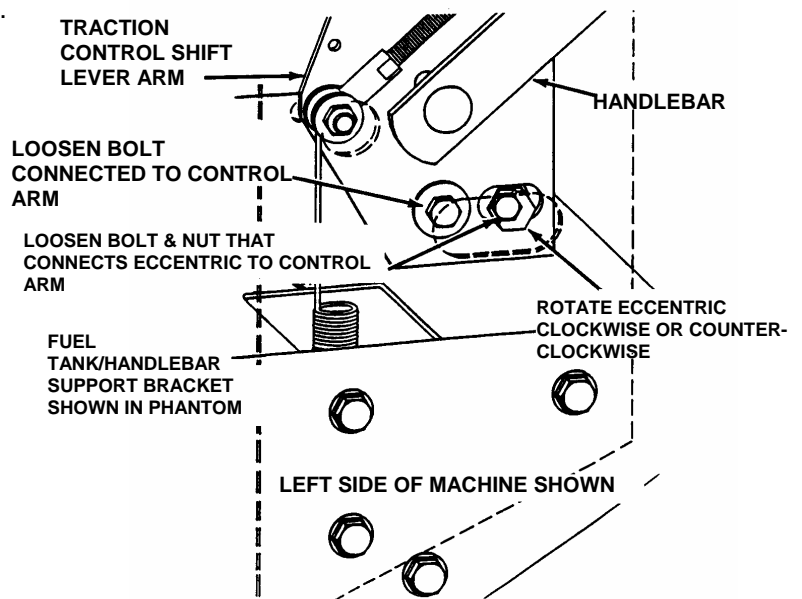

FIGURE 3.10
**STEP 10:** Wheel rotation will be stopped by adjusting the eccentric on the pump arms on the right and left pumps. Turning the eccentric slightly clockwise or counter-clockwise will synchronize the pump and traction controls for Neutral. See Figure 3.10. To turn the eccentric, first loosen the bolt in the pump control arm and the nut and bolt fastening the eccentric to the pump control arm. With both Traction Levers latched in Neutral, start engine. Turn eccentric slightly clockwise or counter-clockwise until wheels stop rotating. Tighten control arm bolts and eccentric nut and bolts. Check for wheel rotation. Repeat eccentric adjustment if needed.